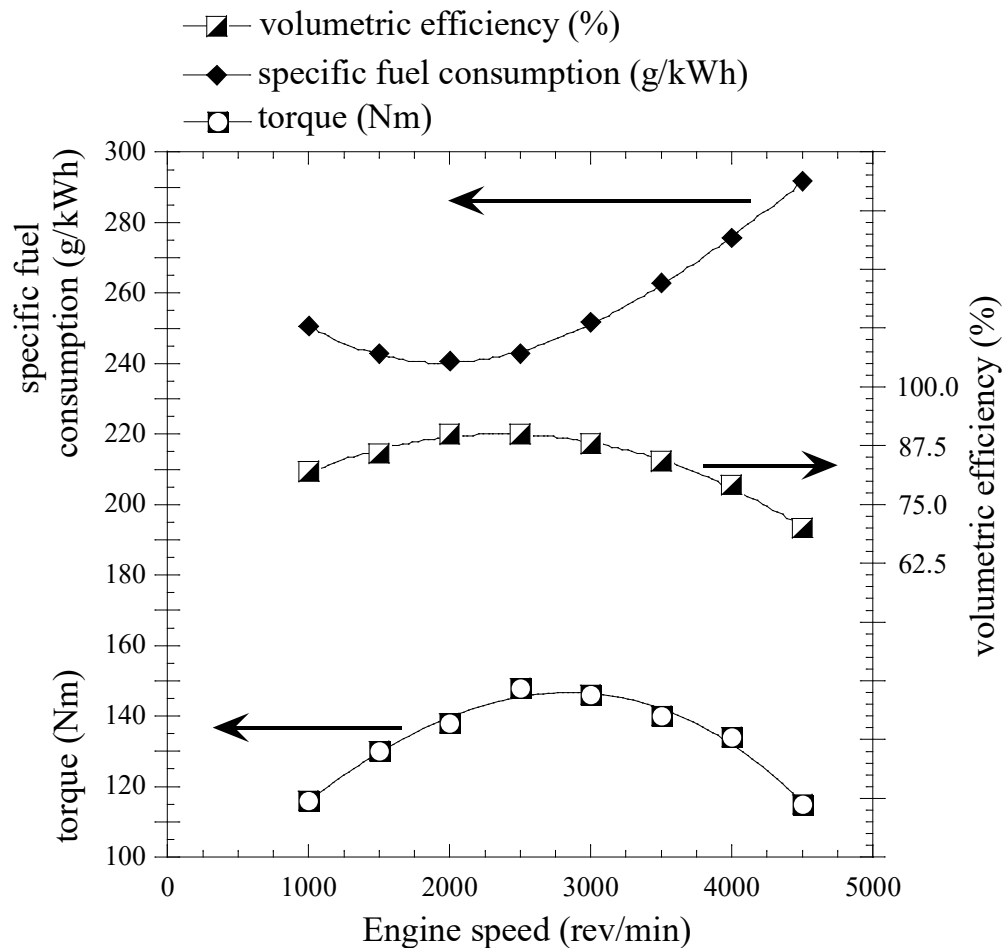

Figure 4 (b)
- (b) A four-stroke diesel engine with a swept volume of 2.5 liters has the performance curve shown in Figure 4 (b) below. Calculate: